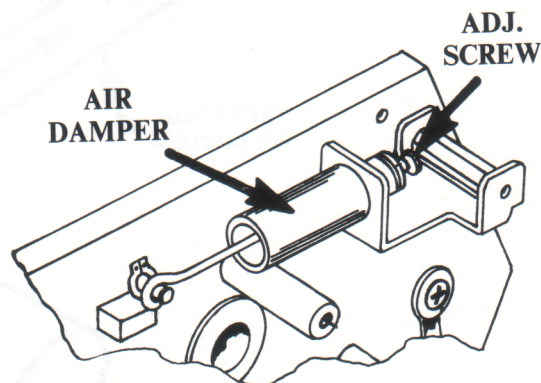

FIGURE 4-3
3. The damper's adjustment screw is located on top of the cylinder head (see Figure 4-3). Power up the Plotter and initiate the Self-Test routine. To increase the damper action of the component, turn the adjustment screw clockwise. To decrease its action, turn the adjustment screw counterclockwise.